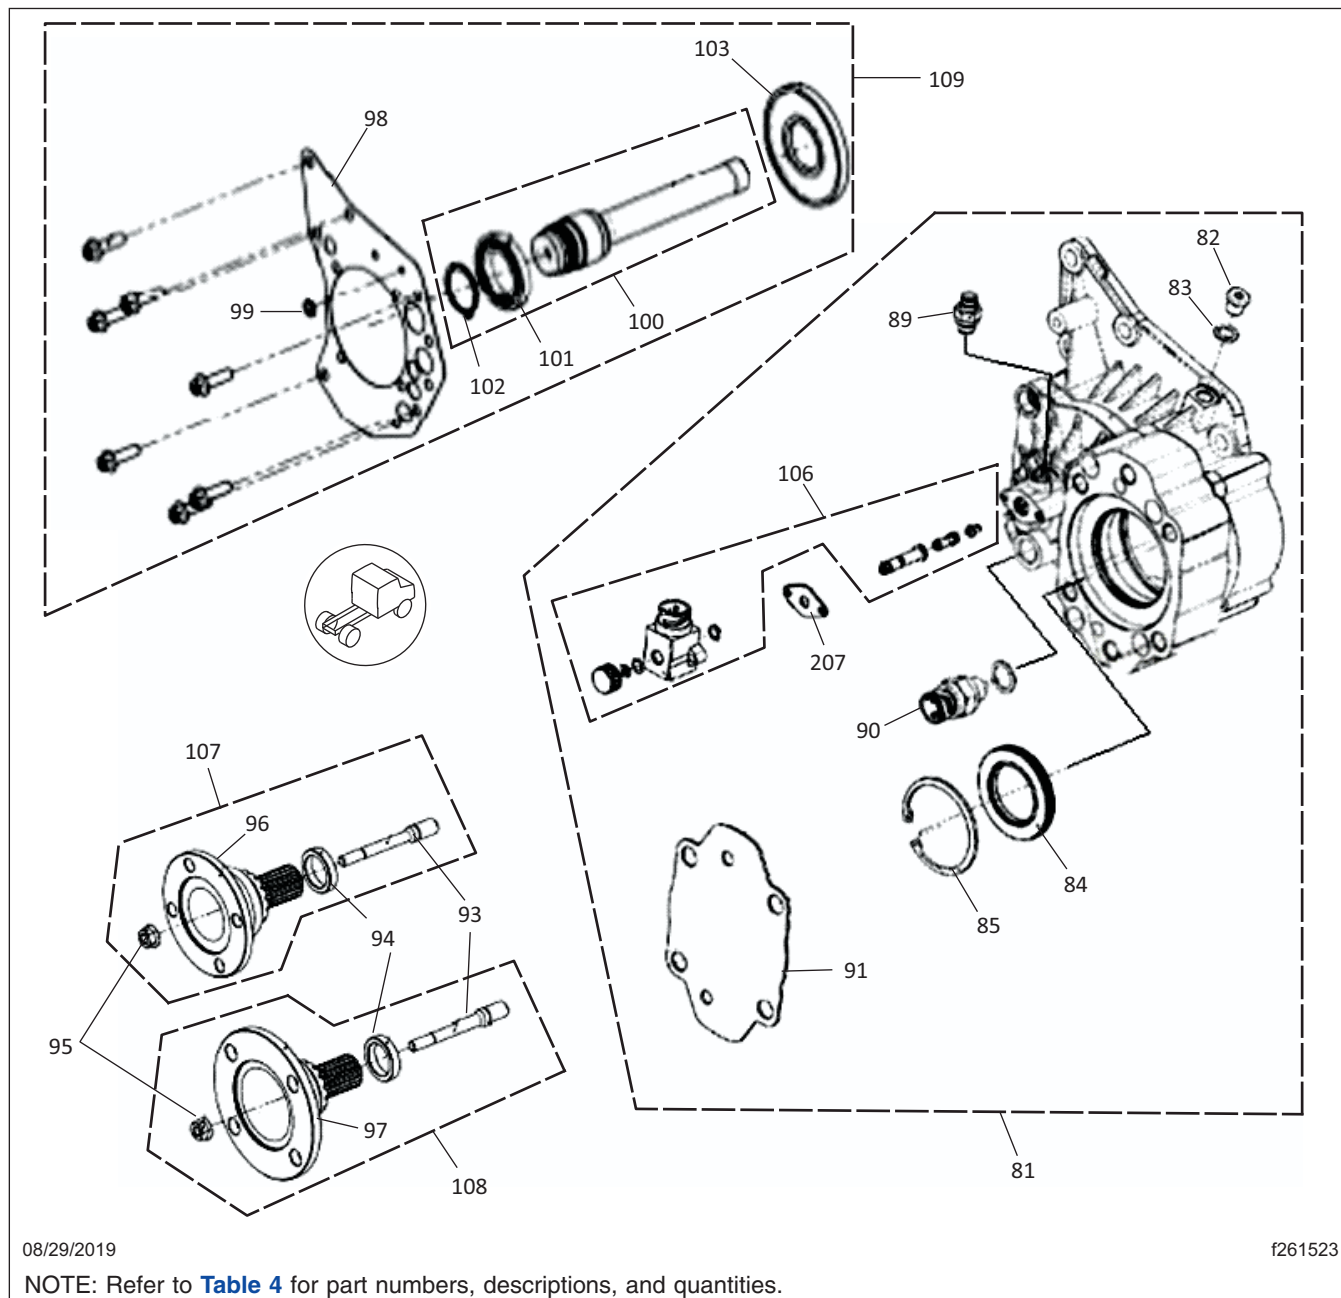

Fig. 1, Service Parts—PTO (342-C93063 or similar)
Use the information in Fig. 1 and Table 4 to identify additional parts and service information, beyond what is required for the PTO installation. Since the PTO was not factory installed, this information will not be available in PartsPro by searching the VIN.
* See Fig. 1.